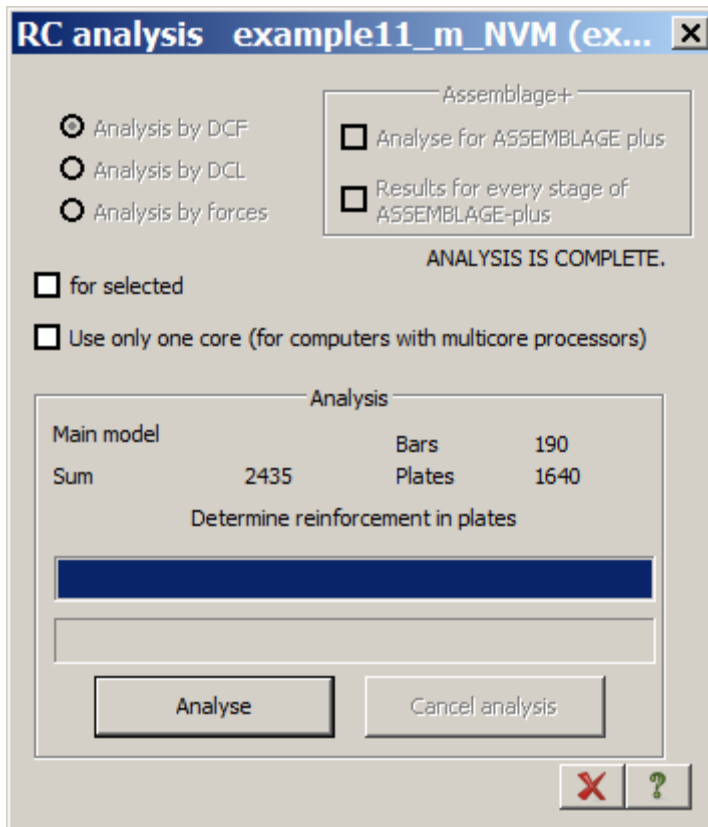

Figure 11.34 RC analysis dialog box
- ⇒ In the **RC analysis** dialog box (see Fig.11.34), click **Analyse**.